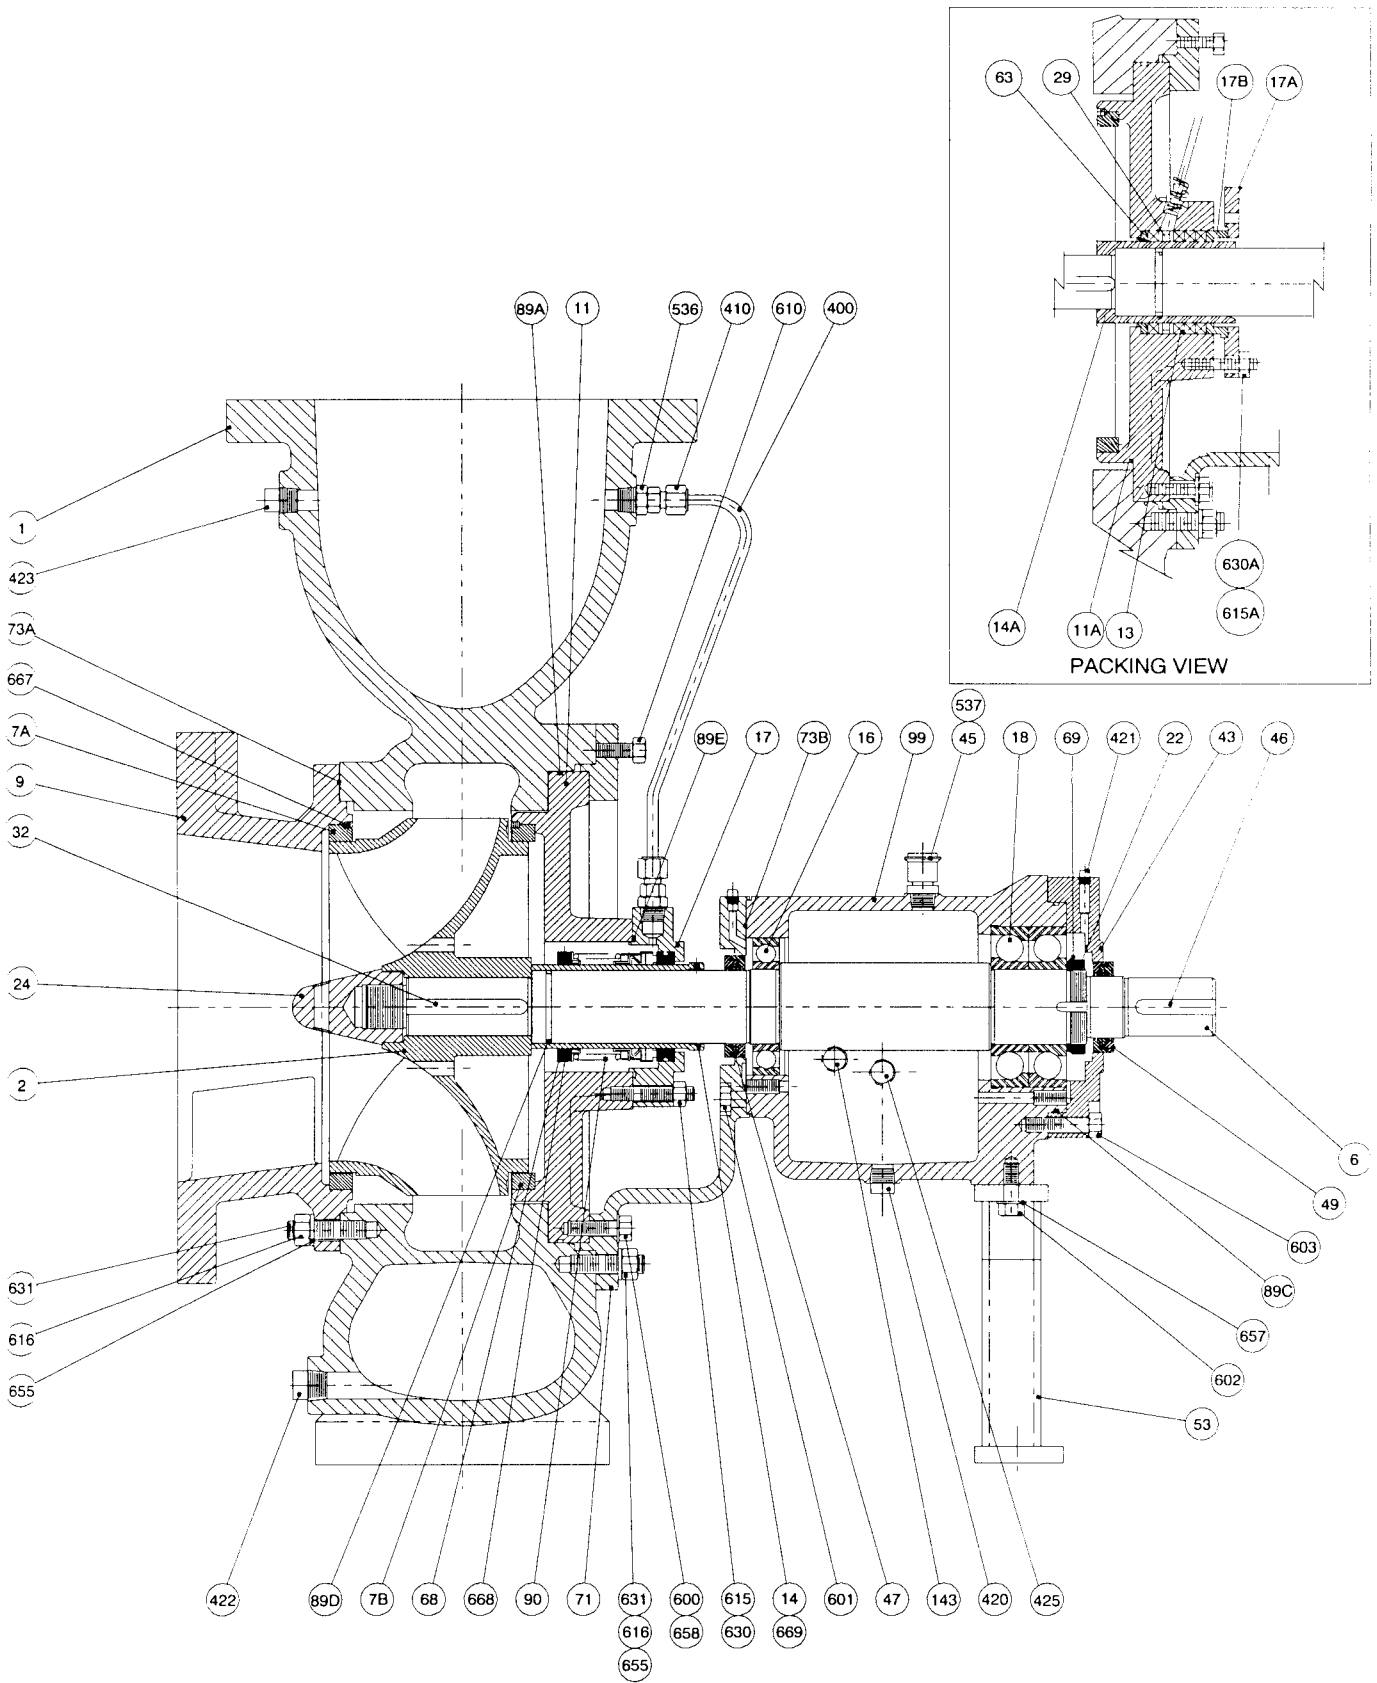

Figure 2. Sectional Assembly Drawing
**J. PARTS INVENTORY GUIDE.** To avoid unnecessary delays for maintenance, spare parts should be on hand for normal service. Most conditions may be covered if this guide is followed. For every one to three pumps, stock one spare parts set consisting of items listed in table 5. Part numbers listed in table 5 correspond to part numbers on figure 2.
Refer to table 6 for the parts list of the ETA-L pump. Refer to sectional drawing, figure 2, for location of parts.
**See Figure 2. Sectional Assembly Drawing**
\*\* Not shown on figure 2.